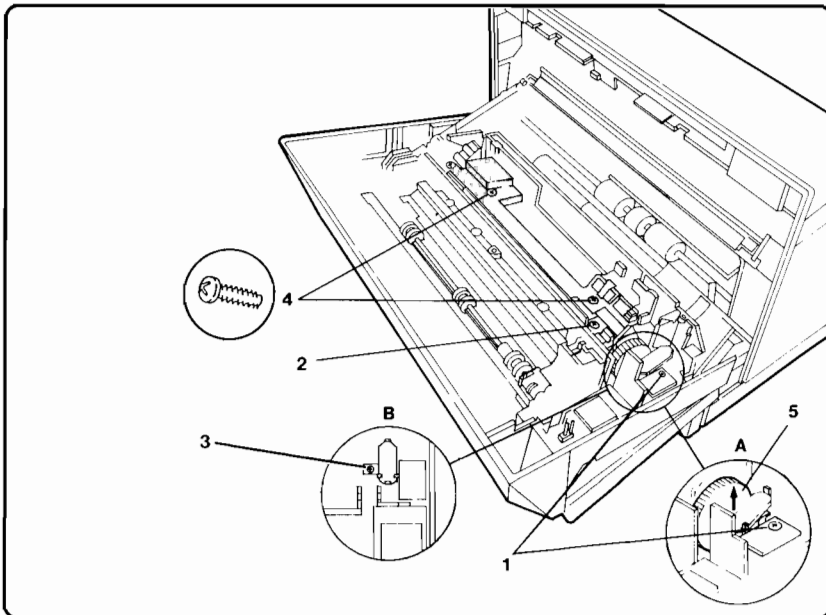

Figure 6-72. PS2 and PS4 Removal
4. Remove the screw (1) securing the plastic Cable Cover and then remove the Cover (see Figure 6-72, callout 1).
5. Remove the screw (1) securing the right Transfer Roller Bracket and remove the bracket (see Figure 6-72, callout 2).
6. Remove the Pick-Up Roller Drive Gear (see Figure 6-72, detail A, callout 5).
7. Remove the screw (1) securing the MP Pick-Up Feed Solenoid (see Figure 6-72, detail B, callout 3). Lift the solenoid up and out of the way.
8. Remove the screws (2) securing the Photosensor Assembly (see Figure 6-72, callout 4).
5. Remove the screws (2) securing MP Paper-Out/Door-Open Sensor Assembly (see Figure 6-72).